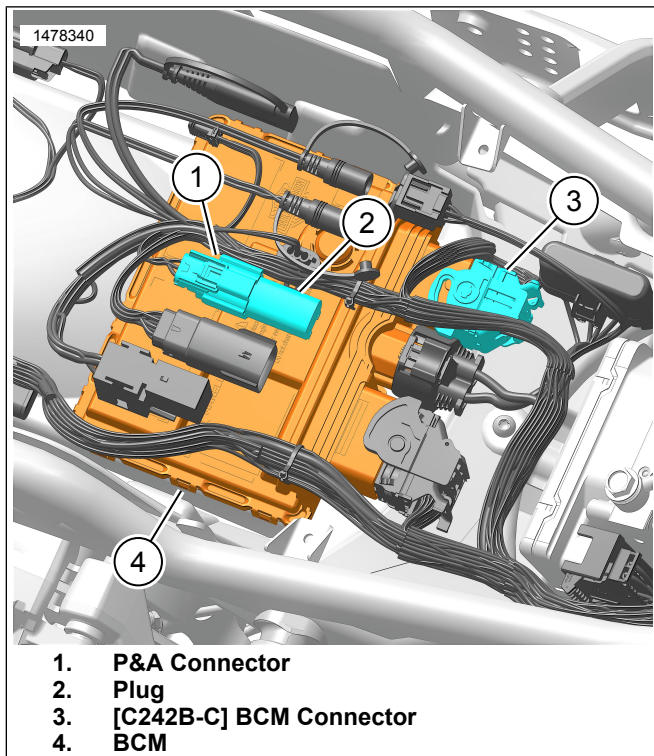

Figure 2. BCM Connections
1. See Figure 2. Install **new** BCM (4). See service manual.
6. See Figure 2. Remove plug (2) from P&A connector (1).